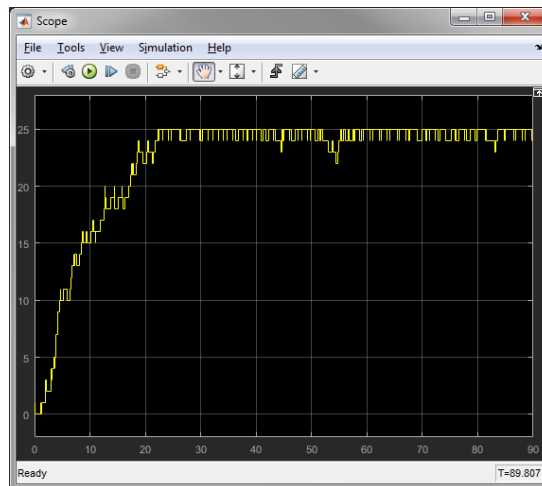

Figure 14: Exercise 4 queue length
5. Run the simulation and observe the results as shown in Figure 14.